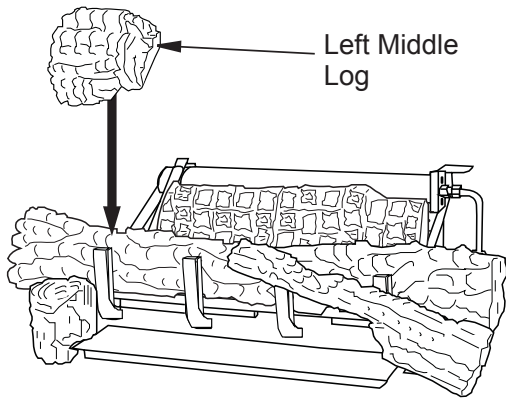

Figure 31 - Installing Left Middle Log
5. The left middle log has a groove on the bottom to sit on the chassis and has to sit on the tab on the back of the left front log as shown in **Figure 31**.